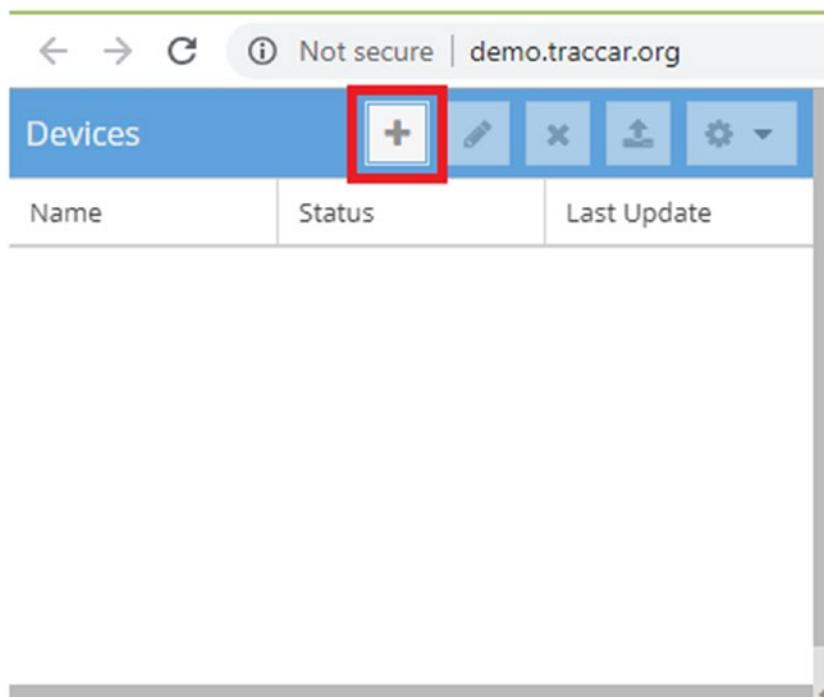

Figure 8-57. Adding a new device, step 1
- Once you are logged in to the demo, add a new device by clicking the Add button (Figure 8-57).